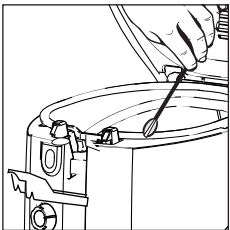

fig. 17
- In order to clean the inside of the drainage tube, use the tube brush supplied (fig. 17).